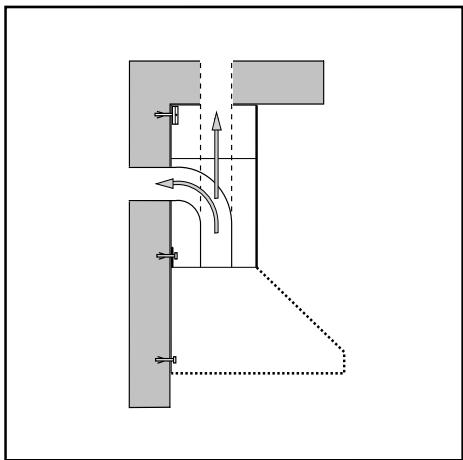

Fig.1
- The appliance has been designed for use in the ducting version (air exhaust to the outside – Fig.1).